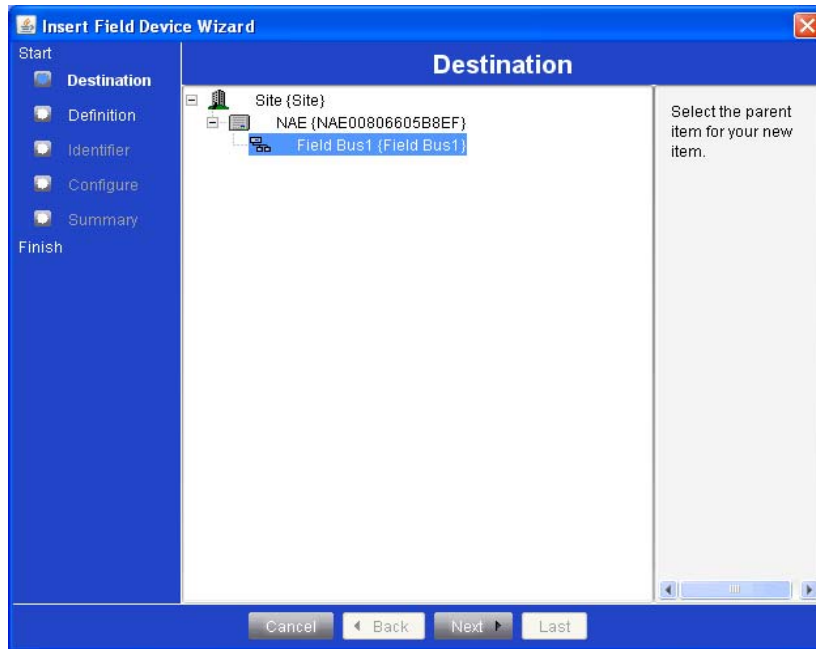
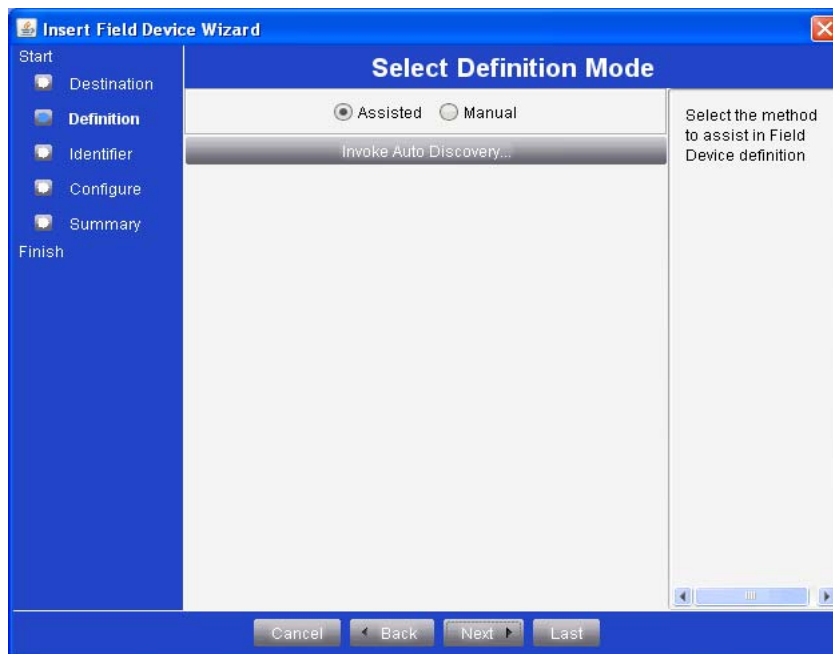

Figure 41: Insert Field Device Wizard - Destination Screen
Figure 42: Insert Field Device Wizard - Select Definition Mode Screen
Note: An **Extension Wizard** screen may appear after you click **Finish**. If it does, close the **Extension Wizard** by clicking **Done** to go to the **Insert Field Device Wizard - Destination** screen (Figure 41). In the Insert Field Device Wizard - Destination screen, you can insert a TEC20-6C coordinator into the field bus integration you just created. See *Inserting a TEC20-6C Coordinator into a Field Bus Integration*.
2. Select **Field Device** on the **Insert** drop-down menu to open the **Insert Field Device Wizard - Destination** screen (Figure 41).
3. Select the destination (a field bus integration) from the navigation tree for the field device (TEC20-6C Coordinator), and then click **Next** (Figure 41) to open the **Insert Field Device Wizard - Select Definition Mode** screen (Figure 42).